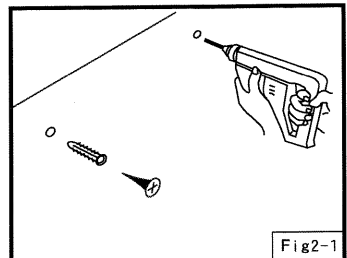

Fig2-1
3. Select suitable position for installation, drill hole on the wall by using $\frac{1}{4}$ " thread bit and put screw lock inside the hole to fit screw with matching hanging hole (Fig2-1).